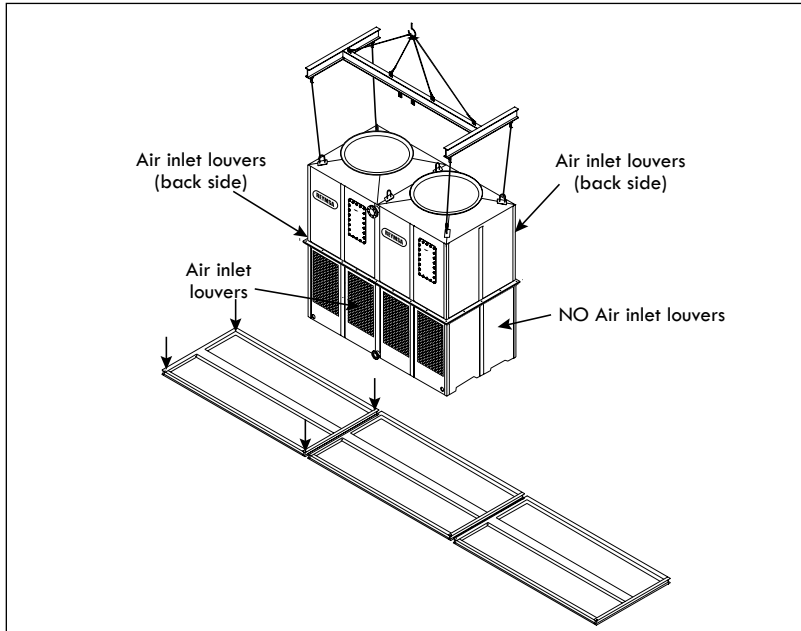

Figure A-69: S-Orientation - First T1 module lifting and installation (RTM-B-S or RTPM-B-S)
- A. Lift the first module using a crane and a spreader bar and place it on top of the isolation pad and the steel base structure. Secure it with the galvanized steel nut and bolts sets (supplied by others) as shown on Figure A-69.